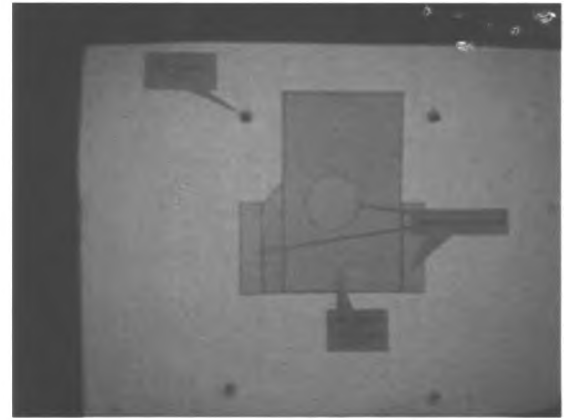

Figure 2
6. Using the provided template, line it up to the four screw holes on the monetary panel.(Fig. 2)